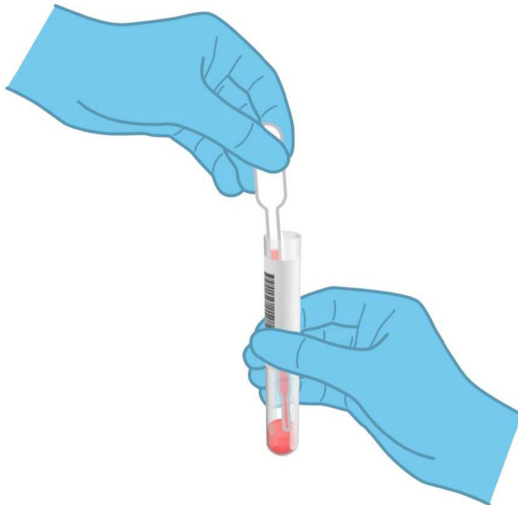

Figure 7. Drawing up sample into the supplied transfer pipette.
5. Open the tube with the sample to be tested. Use the supplied transfer pipette to draw up fluid to the third fill line on the pipette (i.e., 300 μ L) (Figure 7).